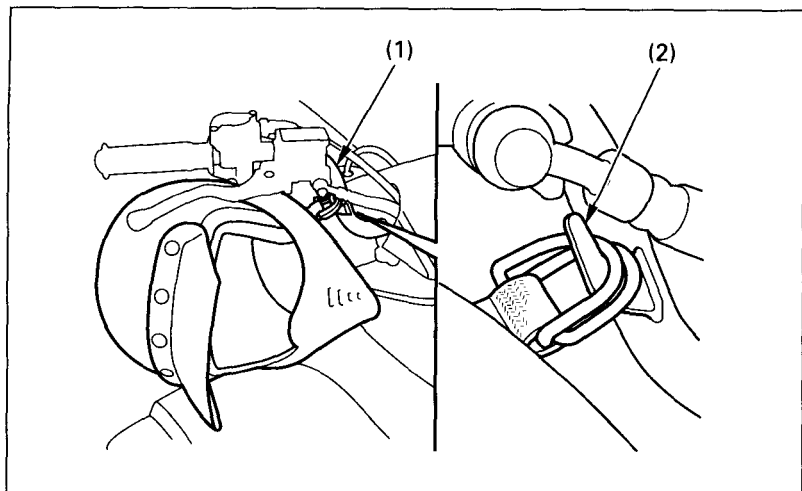

Fig. 2-19 (1) Handlebar
The helmet holder (2) (Fig.2-19) is located on the right side of the handlebar (1). To use the holder, hang the D-ring on your helmet strap over the bracket. Use the helmet holder only when the FOURTRAX is parked.